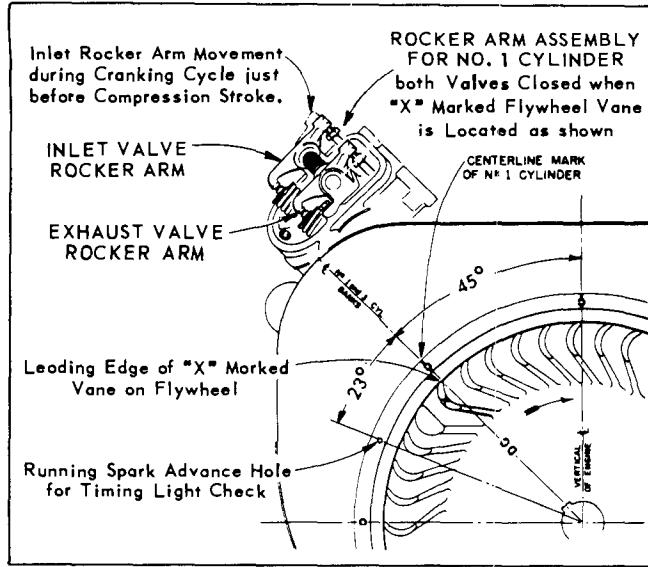

Fig. 6
#### TIMING MARKS (Refer to Fig. 6)
**TIMING INSTRUCTIONS:** The No. 1 piston must be on top dead center of the compression stroke before distributor can be mounted. With reference to Fig. 6, this can be accomplished as follows: